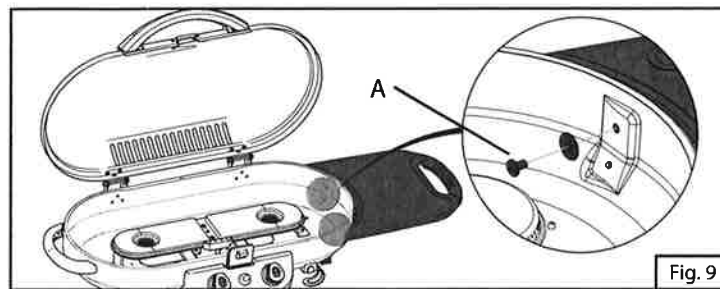

Fig. 9
6. Attach the side table by using two washers and two screws. (Fig. 9)